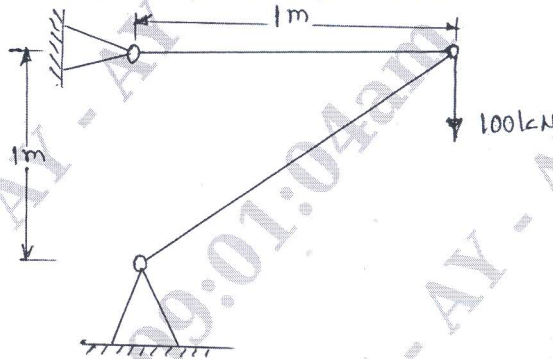

Fig.Q.6(b)
- b. For the two bar truss structure, as shown in Fig.Q.6(b). Determine the nodal displacement and stress in each element. Take $E = 210 \times 10^9 \text{ Pa}$, $A = 0.01 \text{ m}^2$. (12 Marks)